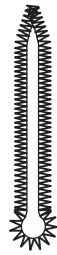

Fig. 54
The buttonhole bartack must cover the beginning of the right buttonhole seam (fig. 54).
- The eyelet should be nicely rounded and the wedge tack should be sewn evenly, with a tolerance of plus/minus 2 stitches (fig. 54).